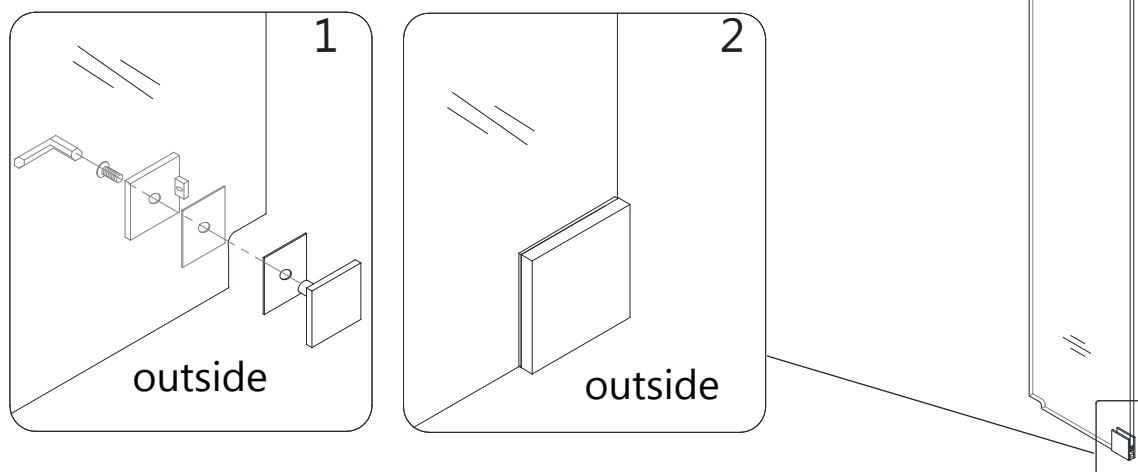

Fig 6
5. If the model width is 72" and includes the **Small Stationary Glass (#23)**, assemble the **Wall Bracket (#19)** onto the larger notch at the bottom corner of the **Small Stationary Glass (#23)**. Use the provided gaskets to protect the glass. **(Fig 6)**